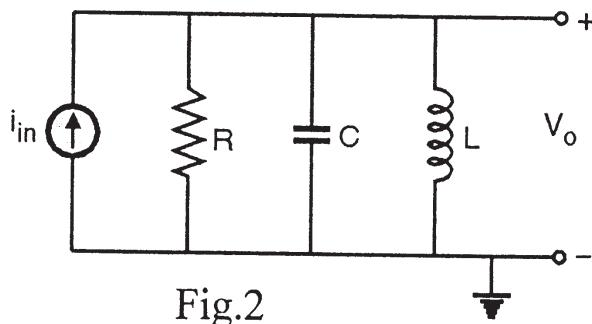

Fig.2
- Q7)** a) Find the transfer impedance function $\frac{V_o}{I_{in}}$ for the passive RLC Circuit shown in fig. 2? Compute the sensitivities of ω_p , Q_p and K with respect to the passive elements R , L and C ? [6]